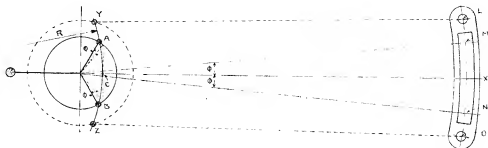

Fig. 7
WE will now again revert to the position of the eccentric when the stroke of same has to be made more than the travel of the valve, as when locomotive-type links are employed, as in Fig. 1 and 3. This increased throw is due, of course, to the eccentric-rod drive being out of line with the centre line of the valve spindle when in full gear. In Fig. 7 this arrangement is shown, and requires to be set out to scale to suit the requirements to a fairly large size. Suppose we have obtained our required valve events, as in the example Zeuner diagram, Fig. 4, and we have designed the links so as to make the angle  $\theta$ ,  $7\frac{1}{2}^\circ$ , which subtends from the axis to the two points M, and N, where the centre of the die-block is located, as in Fig. 7. We then have to fix the minimum distance LM and NO for the centre of the eccentric-rod pins, so as to bring the die-block as near to them as possible. Having done this, we can arrive
- (4) For launch-links, the stroke of the eccentric will be the same as the valve circle and the advance as given by the angle  $\phi^\circ$ ; but for locomotive-links, the angle  $\phi^\circ$  must be found, from the inclination of the eccentric-rods, and this angle is then added to the angle of advance on the diagram from which the point C is obtained to enable the valve characteristic to be found, the continuation of which will allow the new eccentric centres to be ascertained by following out the diagram in Fig. 7.
- (5) The mid-gear valve stroke in both cases is given by the point C, so that any cut-off can be predetermined for any required position of notching-up of the gear lever, from the gear characteristic curve, extending from the point C to full gear.